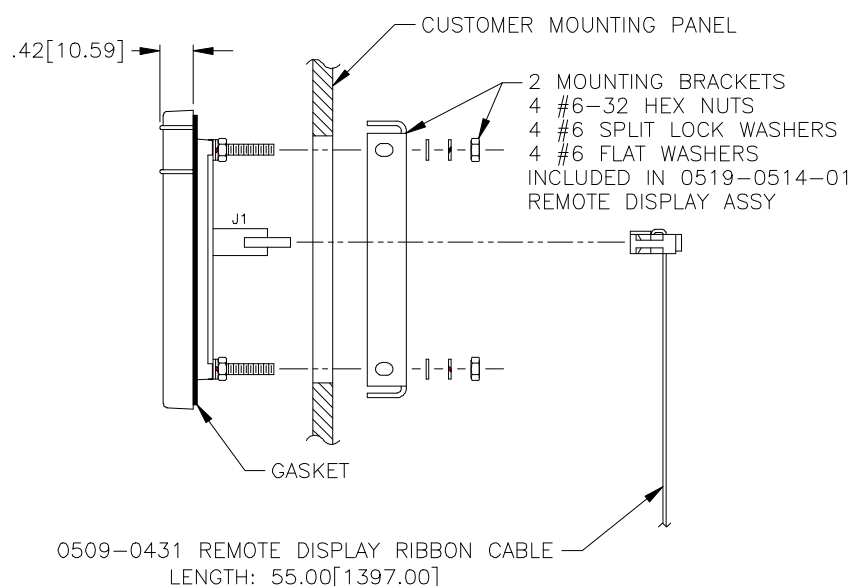

FIG. 3-4 MOUNTING REMOTE DISPLAY TO CUSTOMER'S ENCLOSURE
- Step 3. The front panel comes with two (2) mounting brackets mounted on the bezel.
- Step 5. Gently slide the front panel into the enclosure cutout until the gasket is seated against the front of the enclosure. (See Fig. 3-4)